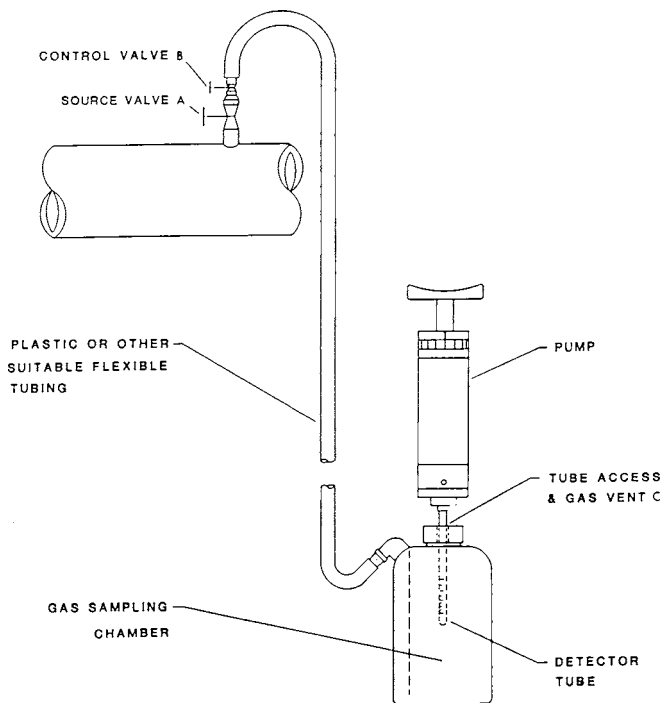

FIG. 1 Half Litre Polyethylene Bottle
7.1.1 Open the source valve (Valve A in Fig. 1) and blow down vigorously to clear foreign material from the source valve and connecting nipple. Close the source valve.
7.1.2 Install the control valve (Valve B in Fig. 1) or pressure regulator on the outlet of the source valve. Connect outlet of the control valve to the gas sampling container using the shortest length practicable of suitable tubing.
7.1.3 Open the source valve and then the control valve to obtain a slight positive flow through the gas sample container, venting to atmosphere through the tube access and vent (Vent C in Fig. 1). Purged gas must be vented at a sufficient rate so that pressure does not build up in the sampling container and increase the flow rate through the detector tube.
6.3 A suitable container can be devised from a half-litre polyethylene bottle (see Fig. 1). A 6 mm outside diameter polyethylene tubing sealed into the bottle and discharging near the bottom of the bottle provides for flow into the sampling container. A 12 mm hole cut into the cap of the bottle provides both access for the detector tube and a vent for the excess gas flow.